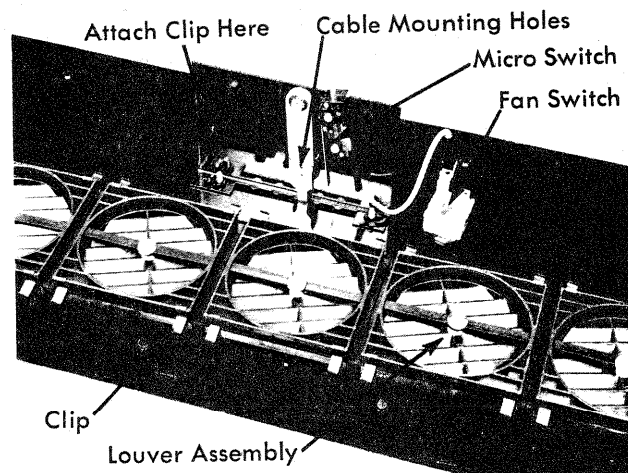

FIGURE 8
2.4.4 This next operation is better as a two man job. (See fig. 8). Holding the console in close final position, put the selector lever in full ‘cool’ position. Insert offset end of control cable into center hole of selector lever. Attach cable sheath loosely to side of bracket using small “C” shaped clip and screw provided. Holding lever in “cool” position fully open damper in unit by hand. At this time tighten “C” clip securely. Now move selector lever to “hot” position. The damper should close completely. If it does not, move control cable to lower hole in selector lever and repeat above instructions. If lever stops before reaching “hot” position, move control cable to upper hole.